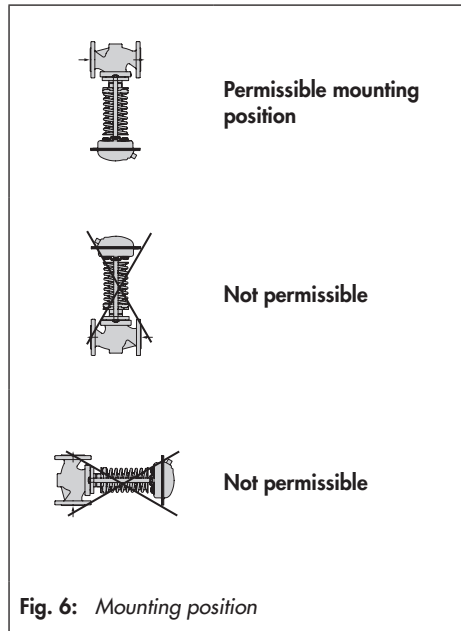

Fig. 6: Mounting position
- Install the actuator housing with the set point springs suspended downward in horizontal pipelines (see Fig. 6).